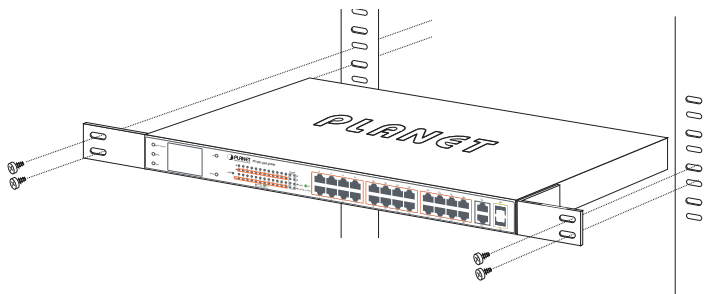

Figure 3-3: Mounting the 802.3at PoE+ Switch in a Rack
- Step 5:** After the brackets are attached to the 802.3at PoE+ Switch, use suitable screws to securely attach the brackets to the rack, as shown in Figure 3-3.